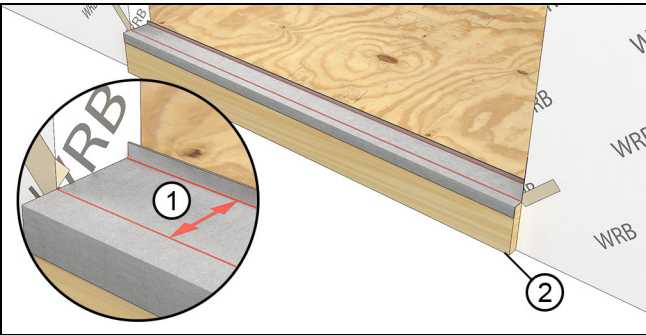
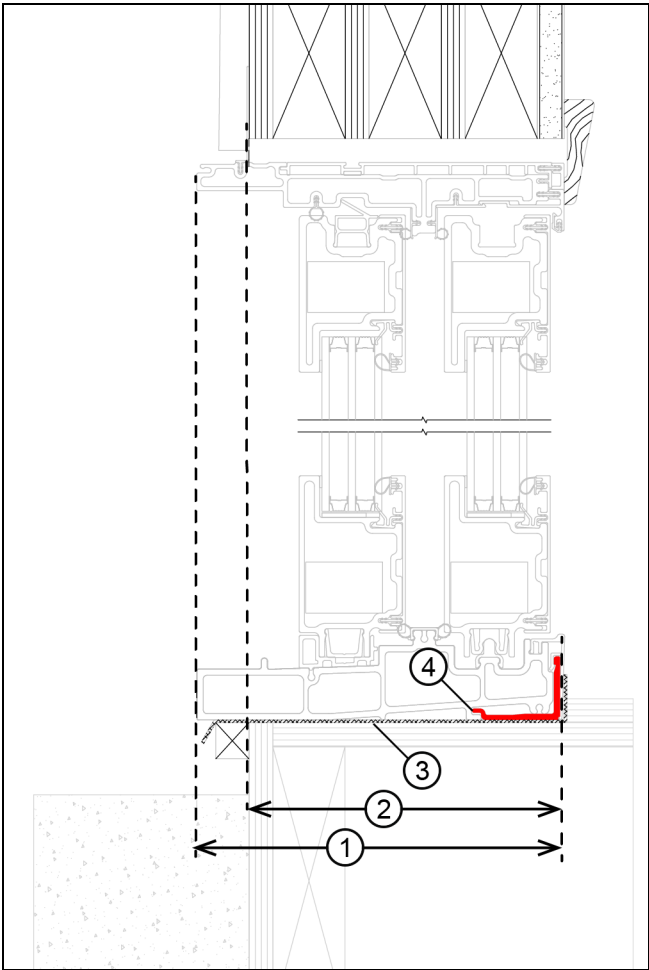

Figure 6
Figure 7
1. Determine the exterior plane of your door installation. You will fasten the aluminum sill support 6 15/32" from the nail fin plane (in some instances, the exterior sheathing plane). Snap a line or use a laser level for reference while installing the sill support. If you are installing in a recessed opening measure back from the exterior plane of the door by 7 9/16". See Figure 6 and Figure 7.